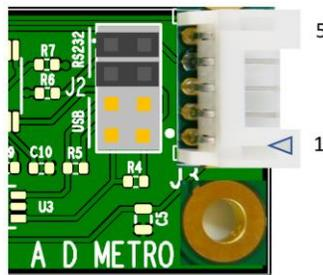

Figure 7: Jumper Positions For RS-232 Operation
- Plug the two (black-colored) jumpers onto header J2 as shown in Figure 7.